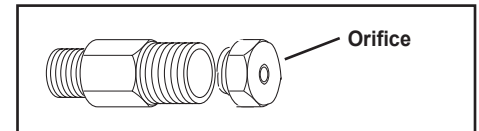

Figure 5 - NG Orifice Holder
H. Install the burner orifice provided with your Log Set Burner System into NG Orifice holder (Part #17) (See *Figure 5*) with NG orifice (See *Figure 5*). Install Lock-nut (Part #13) onto the the Orifice Holder (at the same end as orifice).